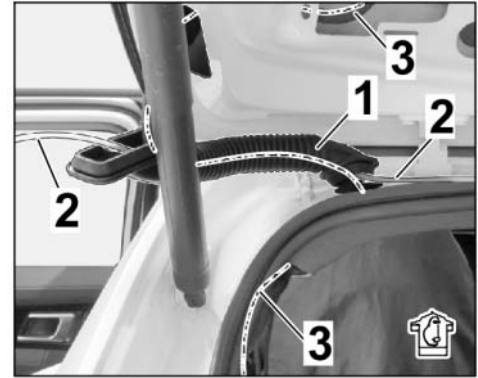

Figure 19
2.3.4 Grommet in area of left tailgate hinge ⇒ *Figure 19*